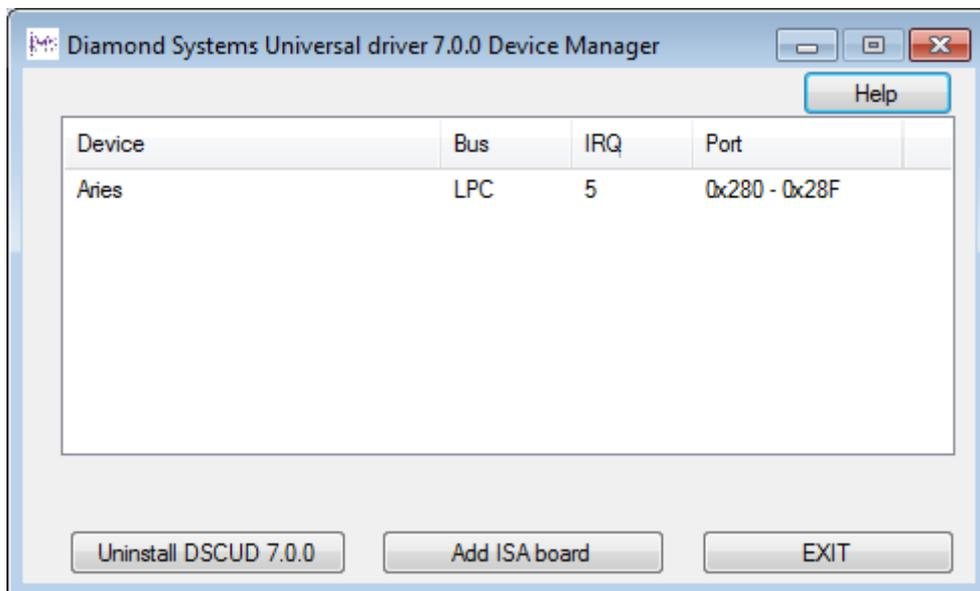

Figure 34: Universal Driver 7.0.0 Device Manager
- On successful addition of the ISA board, the screen will appear as shown in Figure 34.